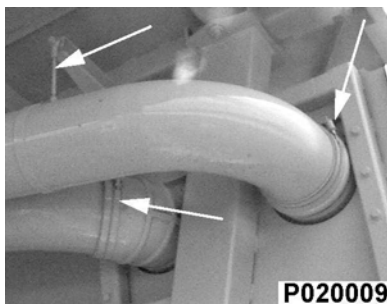

FIGURE 40-2.
8. AIR INTAKE PIPING - Check all mounting hardware, joints, and connections. Ensure no air leaks exist and all hardware is properly tightened. Figure 40-2.